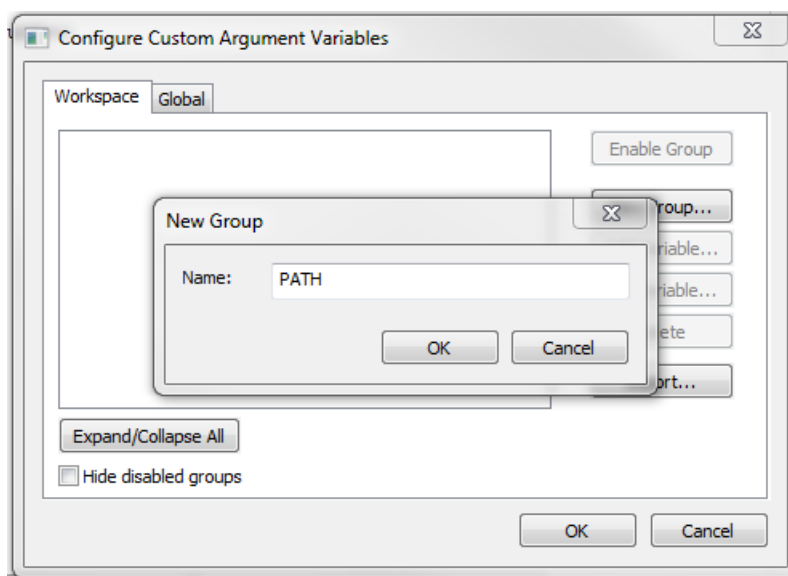

Figure 1-42. New Group
2. Click the New Group button, and another dialog appears. In this dialog, type the name of the group PATH, and click OK. See Figure 1-42.